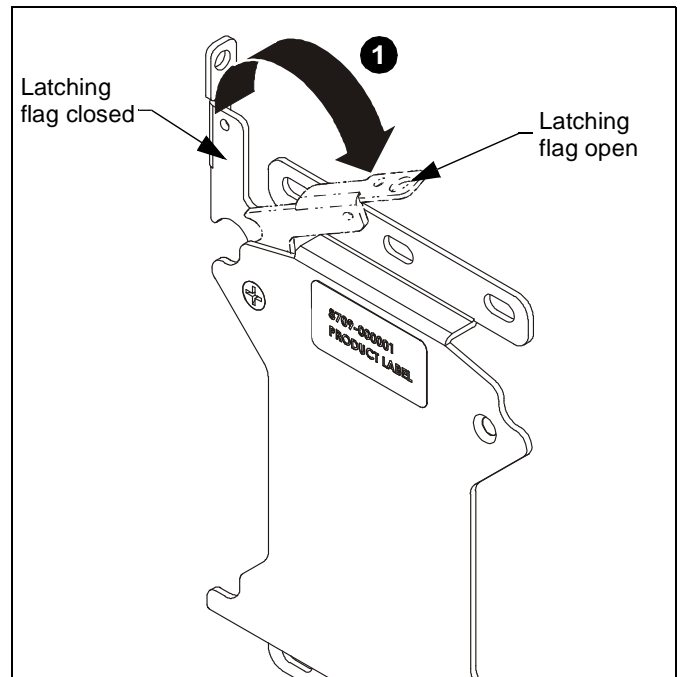

Figure 6
1. Open latching flag by rotating flag clockwise on FSM (A). (See Figure 6)